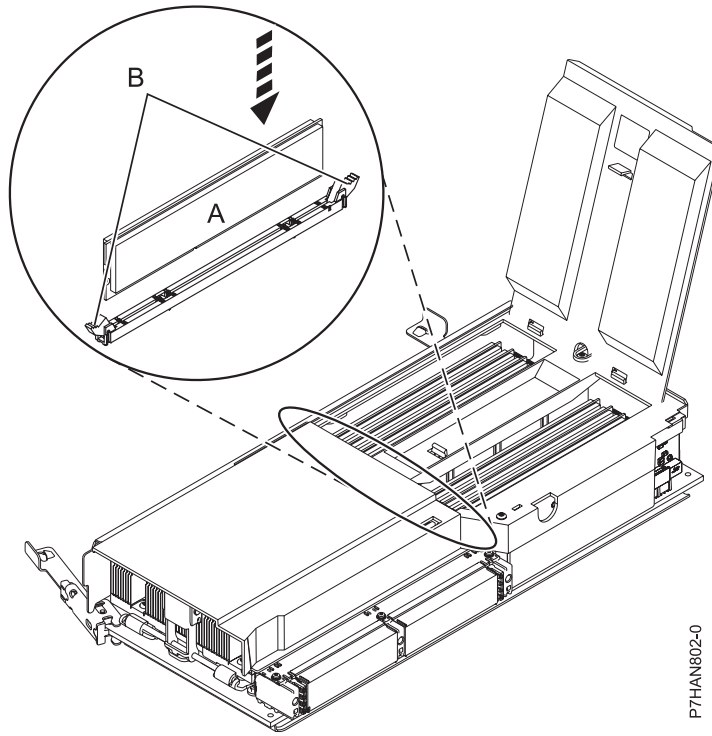

Figure 2. Replacing a memory module
- Ensure that the connector is ready to receive the memory module. Remove the memory module filler, if one is present, by pushing the tabs (B) out and then down. The lever action of the tabs forces the memory module filler out of the connector.
- Ensure that the connector locking tabs (B) are pushed out into the unlocked position, as shown in Figure 2 on page 4, before installing a new memory module.
- Carefully grasp the memory module (A) along two edges and align it with the connector.